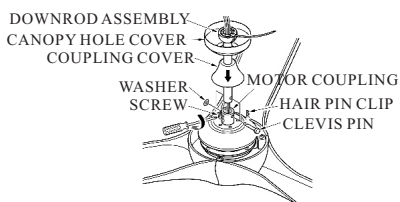

FIG.4
2. Insert the down rod through the center opening in the canopy,coupling cover and route the motor leads through the hanger ball/downrod assembly. Align the clevis pin holes in the downrod with the holes in the motor coupling. The clevis pin must pass through the holes in the motor coupling and the downrod. Place the washer onto the clevis pin and install the hairpin clip making sure to push straight leg of the hairpin clip through the hole near hanger ball to make sure the clevis pin is properly installed(See fig.4)